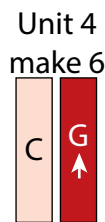

Fig. 6
4. Sew (1) $2'' \times 6\frac{1}{2}''$ Fabric C strip to the left side of $2'' \times 6\frac{1}{2}''$ Fabric G strip lengthwise to make (1) Unit 4 strip (Fig. 6). Repeat to make (6) Unit 4 strips total.